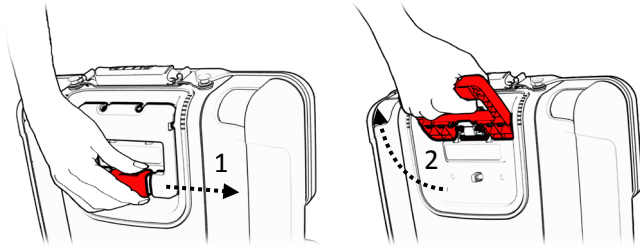

Figure 38
3. Release the secure lever of the back handle (1) and bring the handle to 100 degrees position (2). Allow the seat to slide down until it clicks in place (3). (See Figures 38 and 39).